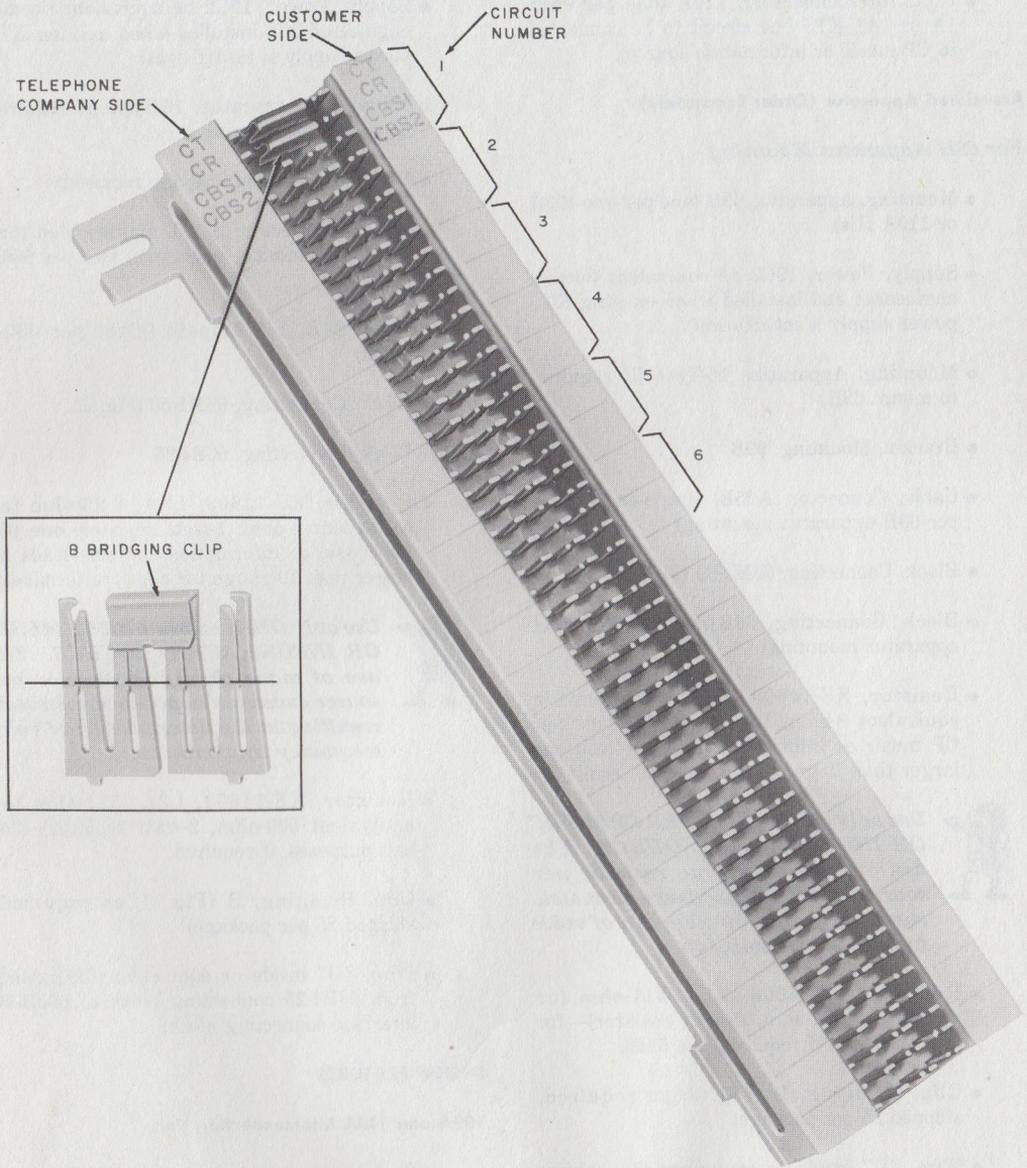

Fig. 3—Typical Interface Connecting Block
- Block, Connecting, 66M1-50 (Fig. 3)
- Clip, Bridging, B (Fig. 3, as required, shipped 25 per package)
- 3.03** Extend CT, CR, CBS1, and CBS2 leads from the 66B4-25 connecting block to the 66M1-50 interface connecting block for access to the CPE. Stencil lead designations on the 66M1-50 connecting block as shown in Fig. 3.
- 3.08** Extend CT, CR, CBS1, and CBS2 leads from the 66B4-25 connecting block to the 66M1-50 interface connecting block for access to the CPE. Stencil lead designations on 66M1-50 connecting block as shown in Fig. 3.